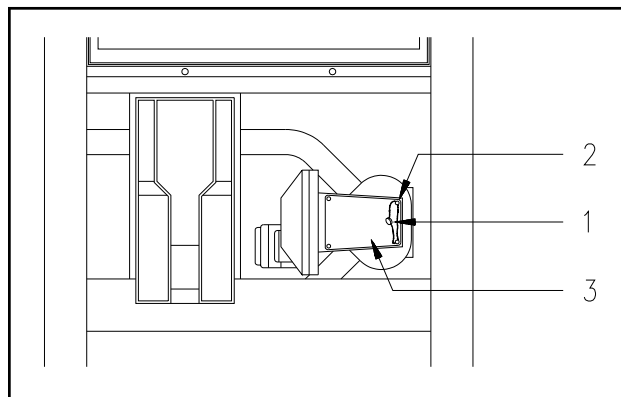

Figure 3
3. Cut and remove the meter seal wire (1). See Figure 3.
4. Remove the four screws (2) holding the adjuster housing cover (3). See Figure 3. Remove the cover.